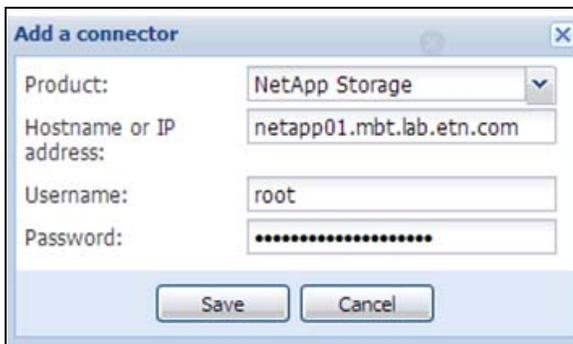

Figure 134. Add NetApp
5. Add identification information for the selected connector (see Figure 134).